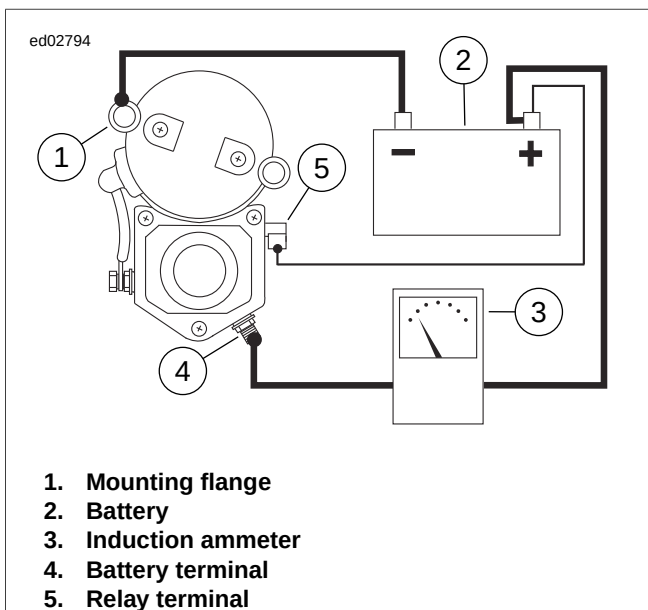

Figure 1-7. Free Running Current Draw Test
2. See Figure 1-7. Attach one heavy jumper cable (6 gauge minimum).